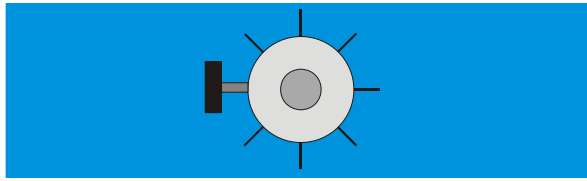

Fig. 4 Mounting of torsional pendulum with scale as viewed from above
- Turn the support beam in a series of steps of small angles by means of the upper suspension rod until it comes into contact with the glass plates. A 45° graduated scale is attached to the housing around the suspension rod for your assistance (see Fig. 4).